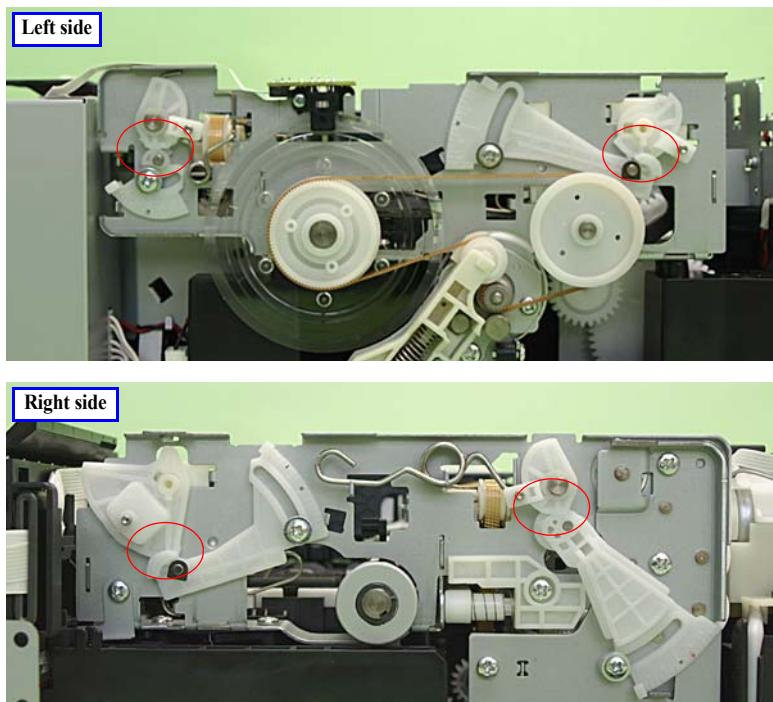

Figure 5-36. PG position when adjusting
See Figure. 5-36.
- Check that the PG cams; located on both the left side and the right side of the Carriage Shaft and the CR guide plate, are in the PG-position. (Fig. 5-36)
Epson Artisan 800/Epson Stylus Photo PX800FW/TX800FW/Epson Artisan 700/Epson Stylus Photo PX700W/TX700W have five PG pre-settings using the APG mechanism. Use the minimum PG setting (PG-: 1.2mm) to carry out this checking. See Figure. 5-36.